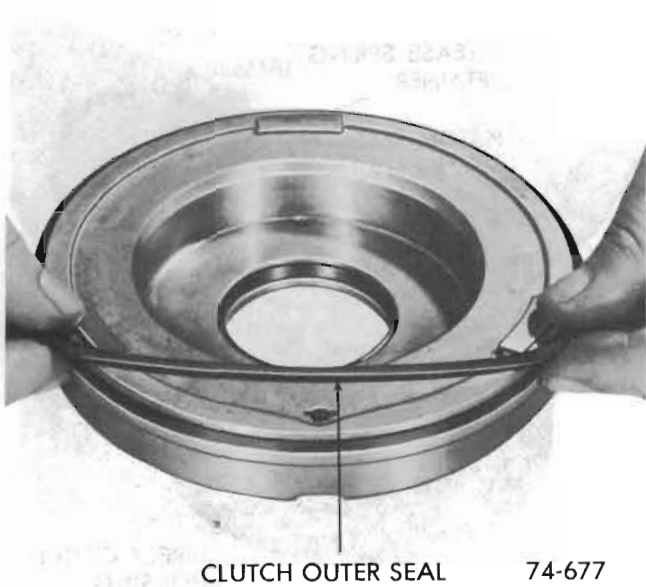

Figure 76-202
8. Remove outer seal from piston. See Figure 76-202.
2. Install a new outer clutch piston seal with lip away from spring pockets. See Figure 76-202